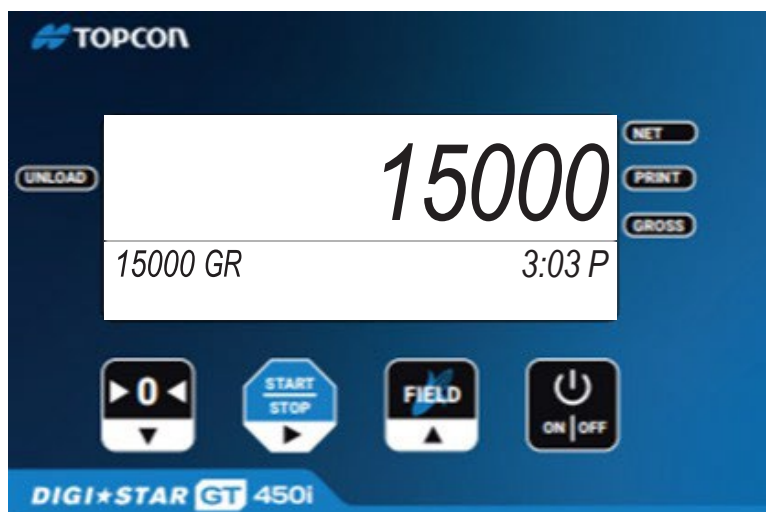

Figure 2-6: Gross Weight
5. Indicator displays **GROSS** weight remaining on scale, indicator is ready to weigh (Figure 2-6).